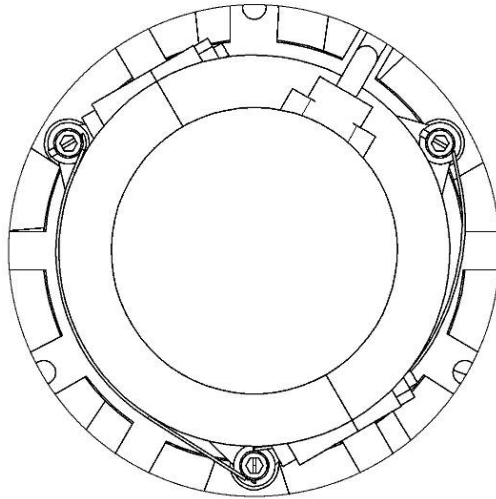

Figure 4: Condenser blower motor locking cable/wire
- 1) Locate the three fasteners connecting the condenser blower motor to the condenser blower fan. Verify the locking cable or wire is taut and properly secured. The locking cable or wire must be secured to the fasteners as shown in Figure 4.